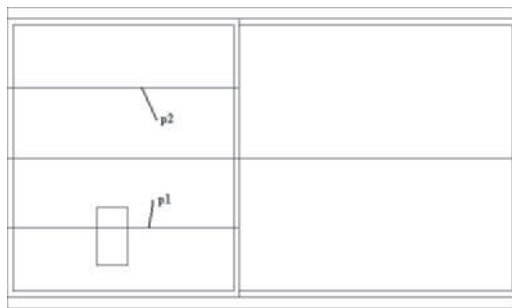

FIGURE 8.10 Selected slabs for Miter
*(Select slab at p1 as shown in Figure 8.10 and choose **Miter** from the Modify panel of the Slab contextual tab.)*
Select edge on first slab: (Select slab at p1 as shown Figure 8.10.)
Select edge on second slab: (Select slab at p2 as shown in Figure 8.10.)